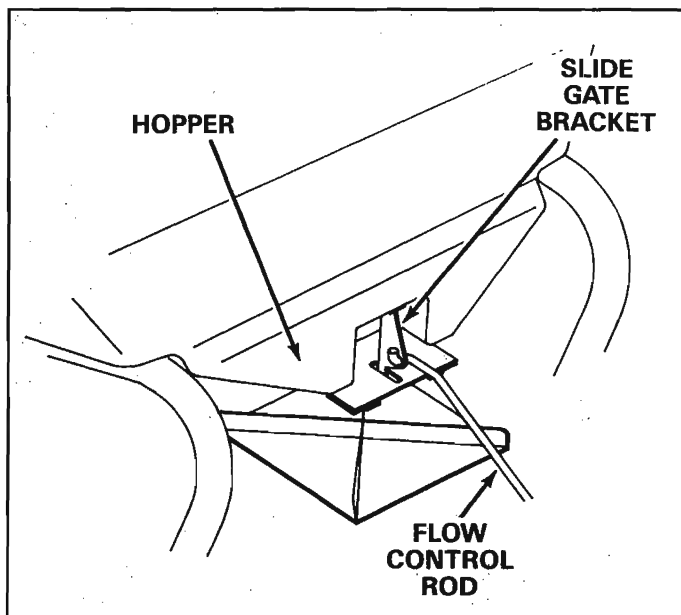

FIGURE 13
21. Hook free end of flow control rod through hole in slide gate bracket located near bottom of hopper. See figure 13.